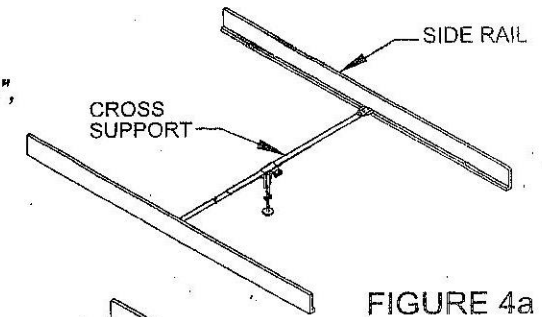

FIGURE 4a
Step 3. Place assembled CROSS SUPPORT between SIDE RAILS as shown in Figure 4a. When more than one CROSS SUPPORT is used, spacing between CROSS SUPPORTS should be approximately 20"-28" as shown in Figure 4b.